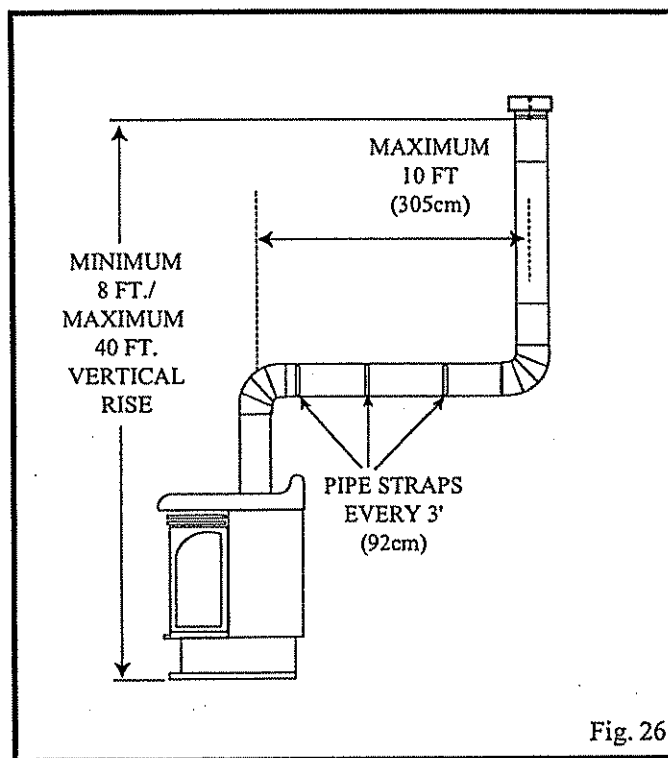

Fig. 26
- a) Vertical installations up to 40 feet (12 metres) in height. Up to a 10 ft. horizontal vent run can be installed within the vent system using a maximum of two 90° elbows. (Fig. 26)
- 7) 7DVCS must be used to support offsets. (Fig. 26)